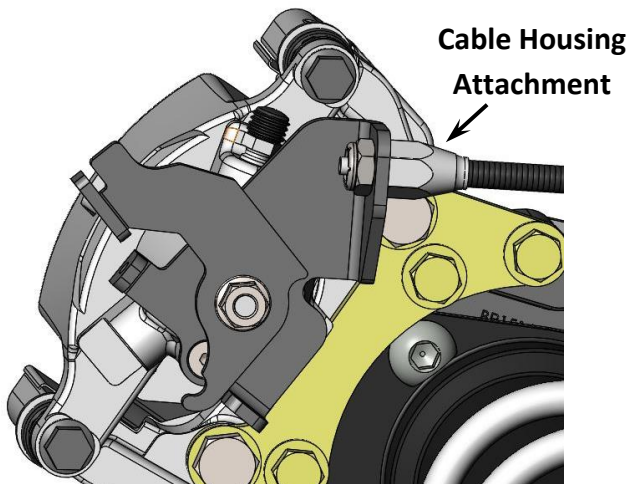
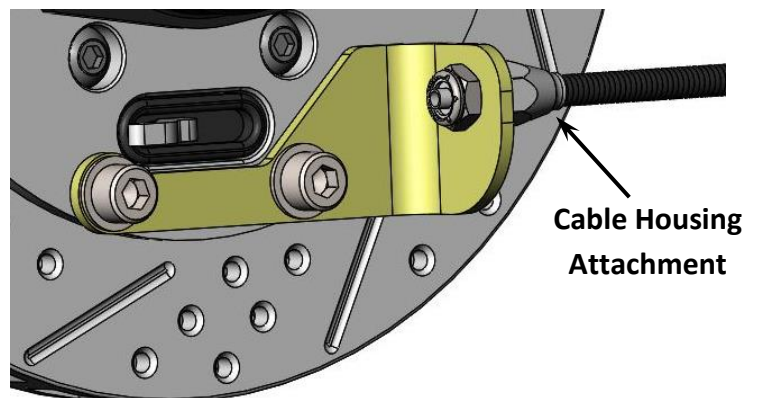

Figure 1a – Cable Housing Attachment (ALL Legend Series Rear Disc Brake Kits)
Figure 1b – Cable Housing Attachment (ALL Pro Driver Rear Disc Brake Kits)
2. Insert the Cable Housing Attachment into the bracket on the rear caliper assembly. **NOTE: It may be necessary to enlarge the hole in the bracket slightly.** This will allow the aluminum nut to set flush with the bracket. Install the provided nut. It is not necessary to tighten completely at this point. See Figure 1a below for reference on attachment to **ALL** Legend Series Rear Disc Brake Kits. See Figure 1b below for reference on attachment to **ALL** Pro Driver Rear Disc Brake Kits.